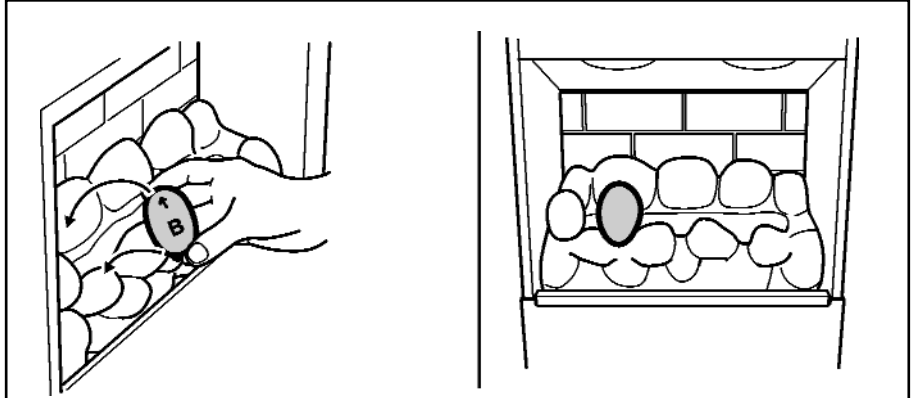

Figure 26.
3. Hold pebble 'B' upright with the arrow pointing to the top. Locate pebble 'B' as shown in figure 26.